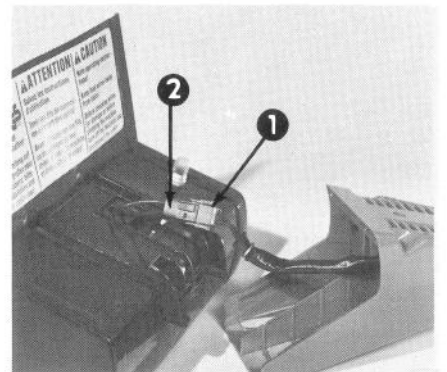

Figure 5
11. Lay the power head and handle on a flat surface in the manner shown in Figure 5.
12. Assemble the power head connector and the handle connector by sliding the connectors together (Fig. 5).